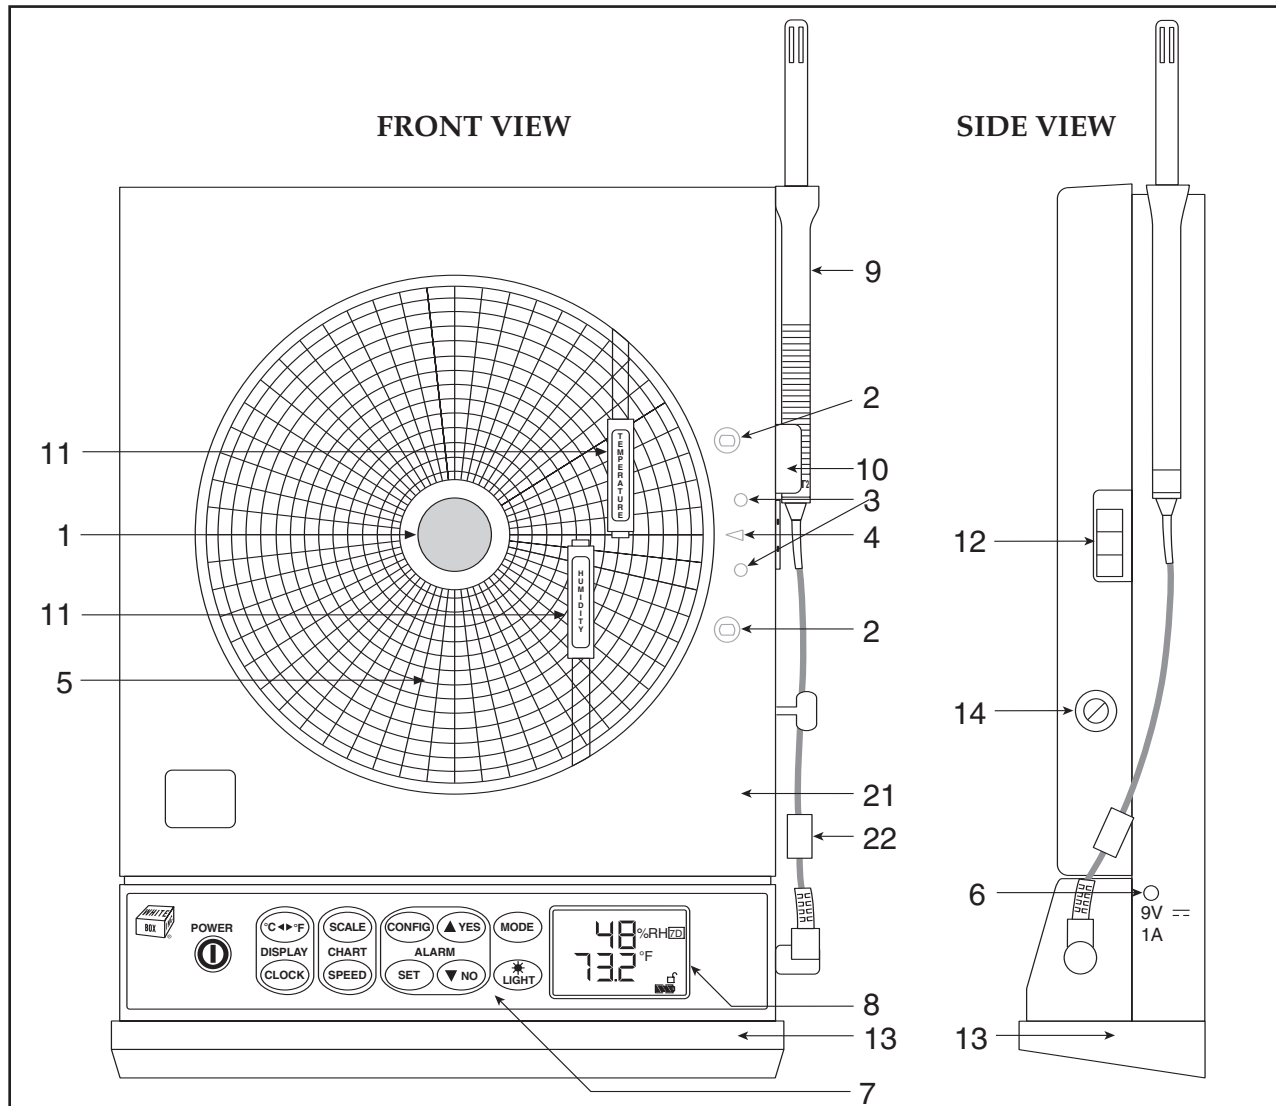

Figure 1-1. Front and Side Views of the Recorder - Temperature/Humidity Model
To mount the recorder on the wall, first locate the wall mounting holes using the template provided in the wall mounting kit. Leave the decorative foot cover (Figure 1-1, item #18) in place*. After drilling the holes, insert the wall anchors and put in the screws, leaving $\frac{1}{8}$ inch (3 mm) between the screw heads and the wall. Hang the recorder by positioning the two (2) “keyholes” in the rear cover over the screw heads.